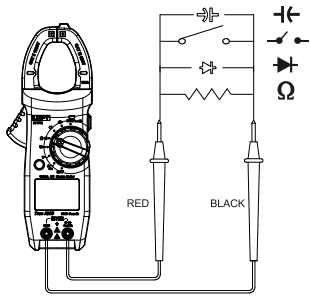

Figure 4
3. Continuity, resistance, diode and capacitance measurement (Figure 4)